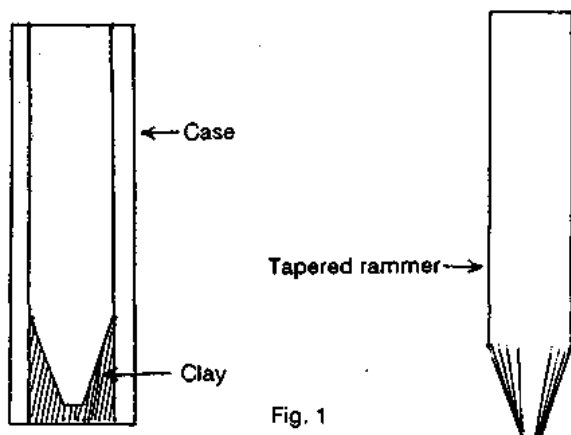

Fig. 1
2) I ram in a clay plug with a conical (tapered) rammer, as shown in fig. 1.
The device is pictured in figure 1. The parameters shown are Nozzle Width (A), Nozzle Length (B), and Case ID (C). The first device I prepared had $A=1/8"$, $B = 1/4"$, and $C = 1/2"$. To explore the range of effects that this type of device might yield, I prepared a series of test devices in which each of these three parameters was varied in turn while keeping the others constant at some nominal value. The values that the experimental devices were given appear below.